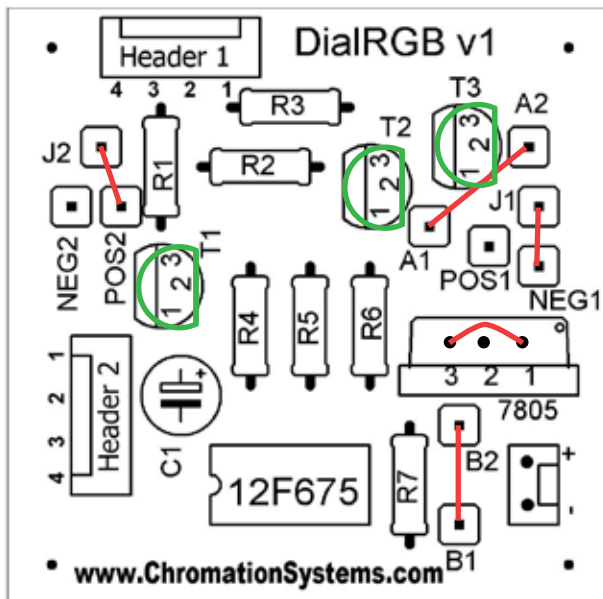

Fig. 2a
**When using 5 volt as the input voltage, the 7805 is not used. So a jumper must be ran from Pin 1 to Pin 3, and the Solder pad for pin 2 needs to be filled in with solder. *see Fig 2a & 2b***